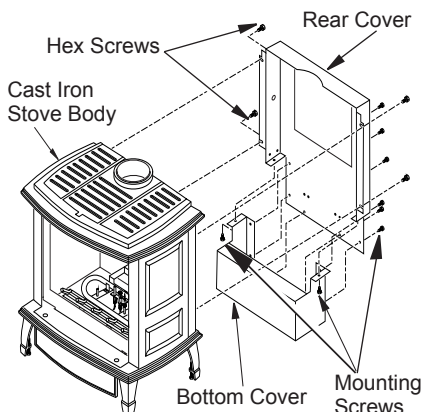

Figure 24 - Attaching Rear Cover and Bottom Cover from Stove Body
2. Using hex screws provided, attach rear cover to back of stove body. See Figure 24, page 17. **IMPORTANT:** This rear cover must be securely in place before venting pipes are installed.